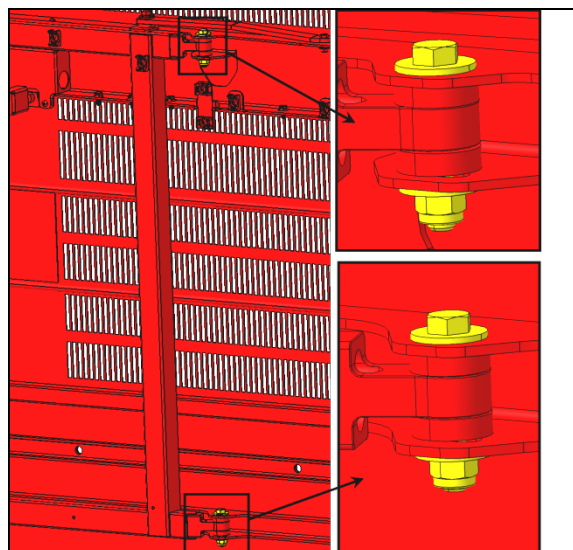

FIGURE 113
4. If the vertical position is out of tolerance, rotate the door using the adjustment provided on the inner side of the door, at the attachment points between the arm and the door (FIGURE 113).